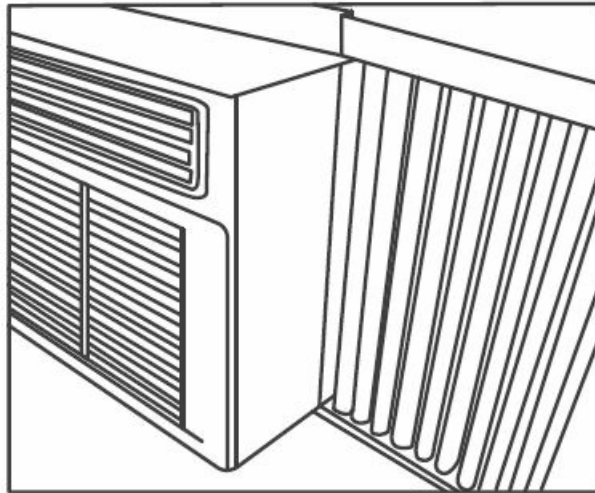

Fig.4
- slight adjustments. Slide the top and bottom ends of the frame into the top and bottom rails of the cabinet. See Fig.4. Slide the panel all the way in and repeat on the other side.